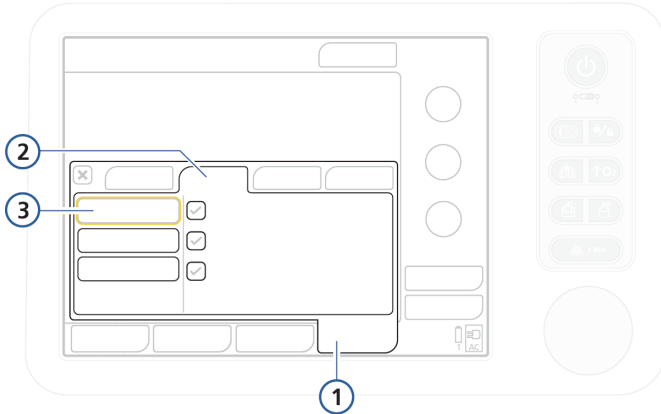

Figure 5-11. Tests & Calib window, Tightness test
2. In the System -> Tests & calib window, select **Tightness**. See Figure 5-11.